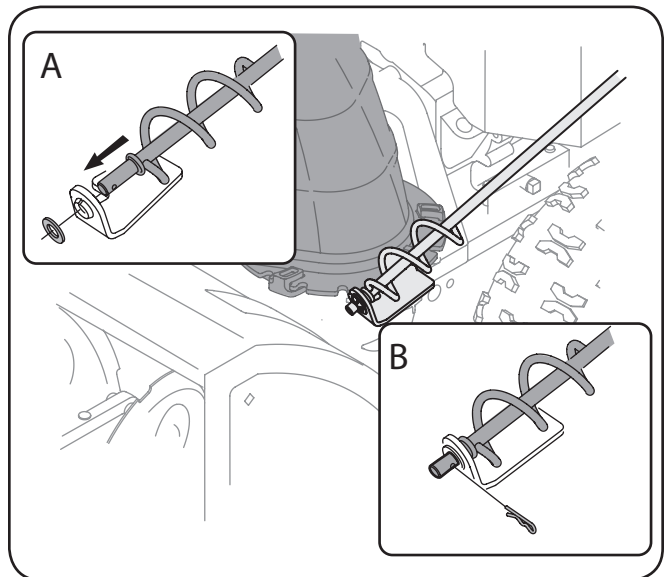

**Figure 3-20**
2. Close the flange keepers to secure the chute assembly to the chute base. The flange keepers will click into place when properly secure. See Figure 3-20.